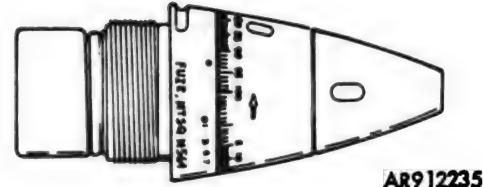

Figure 211.19. Mechanical time and superquick fuze M564.
e. **Fuze, Mechanical Time and Superquick, M564** (fig. 211.19). The M564 fuze is designed to function at time settings from 2.0 seconds up to 100 seconds or upon impact, depending upon which occurs first after arming. Fuzes manufactured through 1969 must be set on 90 seconds if superquick (impact) action is desired. Setting of these fuzes between S and 2 seconds may result in functioning after ap-